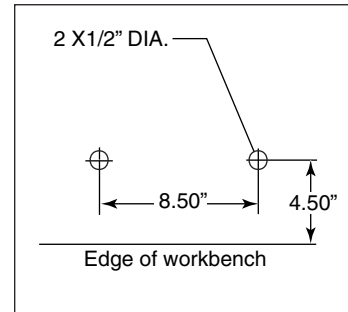

Figure 2: Mounting holes
1. Obtain a sturdy, level work surface capable of supporting at least 300 pounds which is 34"-38" high and located in a well-illuminated area. The work surface area must be able to fit the mounting hole pattern shown in Figure 2.
4. Secure the unit to the work surface using the mounting hole pattern shown in Figure 2. Two 1/2" holes are provided in the crimper mounting bracket for this purpose.